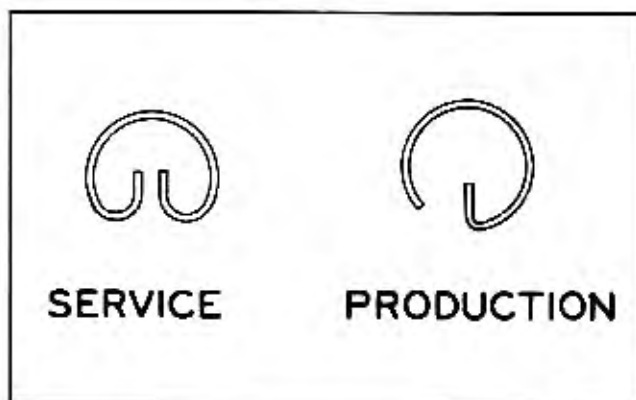

Fig. 6-57 Service and Production Type Snap Rings
2. Remove snap rings which retain pin in piston. **NOTE:** Production snap rings have one prong, service rings have two prongs (Fig. 6-57). Production engines may be equipped with either one prong or two prong snap rings. It may be necessary to use a brass drift to tap pin out of piston pin bosses. **NOTE:** When using brass drift, use care to prevent damage to piston bosses. The possibility of damage can be reduced by grinding a shoulder on the drift which will project inside the piston pin. This will prevent end of drift from contacting piston pin boss.